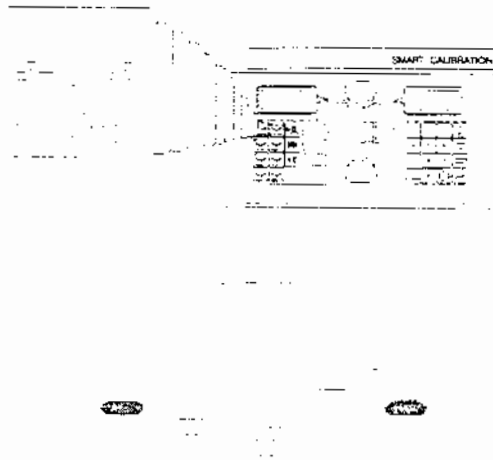

Figure 2 - LEDs indicate weight locations
1. Select the desired weight placement mode of balancing by pressing the appropriate mode button. LED's on the wheel graphic show the weight positions chosen (*Figure 2*). The majority of balancing will take place in the 2 plane dynamic mode. The hammer-on clip weights will be placed on both inside and outside of the rim edge.